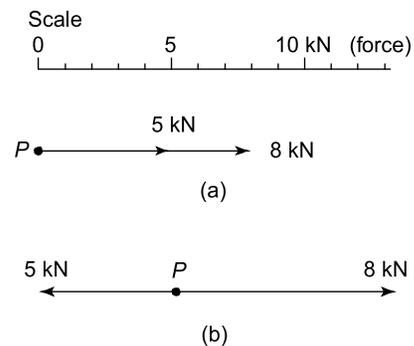

Figure 4.7
- (a) The vector diagram of the two forces acting in the same direction is shown in Figure 4.7(a), which assumes that the line of action is horizontal, although since it is not specified, could be in any direction. From above, the resultant force  $F$  is given by:  $F = F_1 + F_2$ , i.e.  $F = (5 + 8) \text{ kN} = 13 \text{ kN}$  in the direction of the original forces.
- (b) The vector diagram of the two forces acting in opposite directions is shown in Figure 4.7(b), again assuming that the line of action is in a horizontal direction. From above, the resultant force  $F$  is given by:  $F = F_2 - F_1$ , i.e.  $F = (8 - 5) \text{ kN} = 3 \text{ kN}$  in the direction of the 8 kN force.